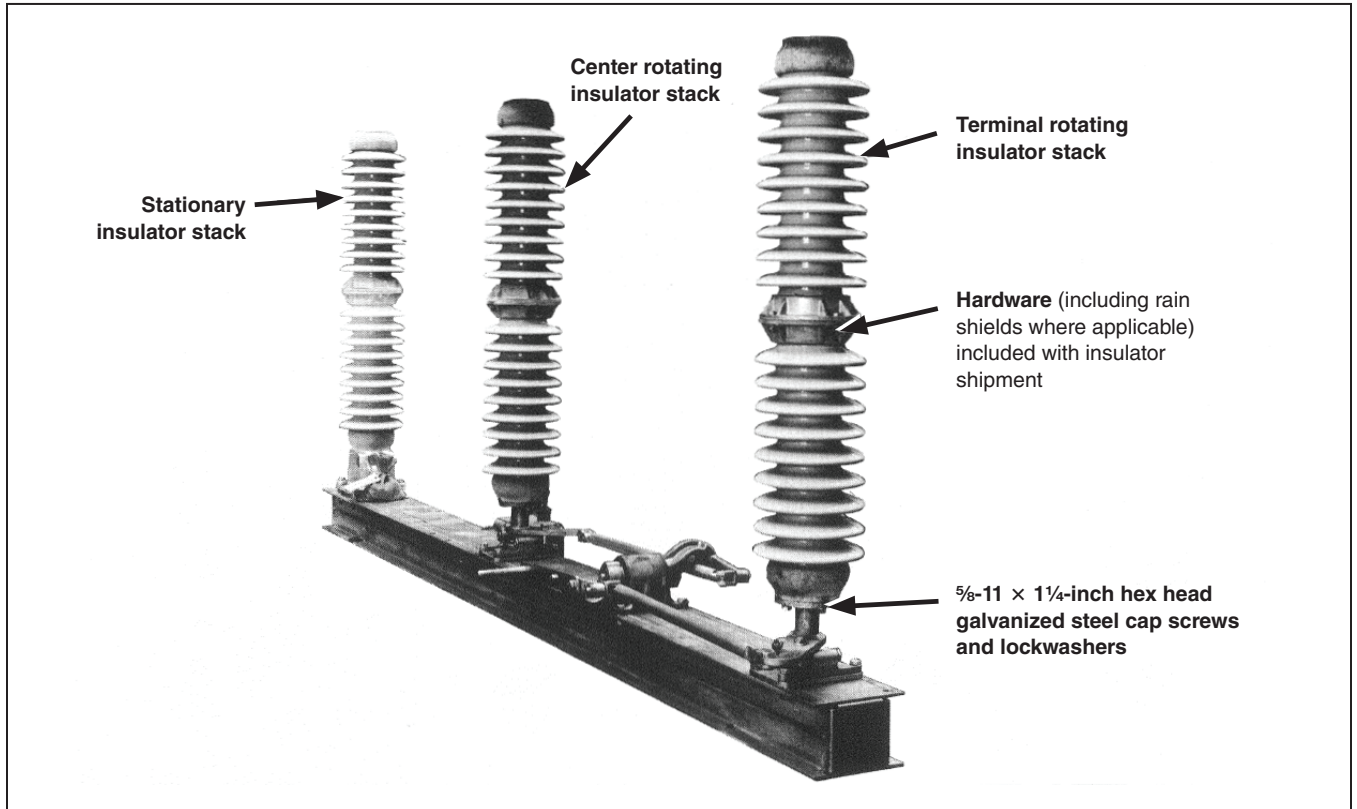

Figure 8. Insulator stacks assembled on pole-unit.
- STEP 7.** Assemble the insulator stacks, with rain shields (where applicable) installed in accordance with the instruction sheet furnished with the insulators directly on their insulator mounting flanges using the galvanized hardware specified in Figure 8 on page 13.